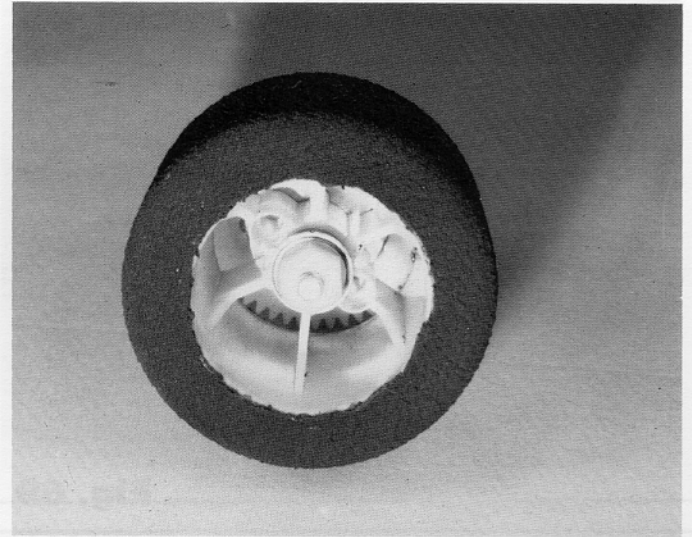
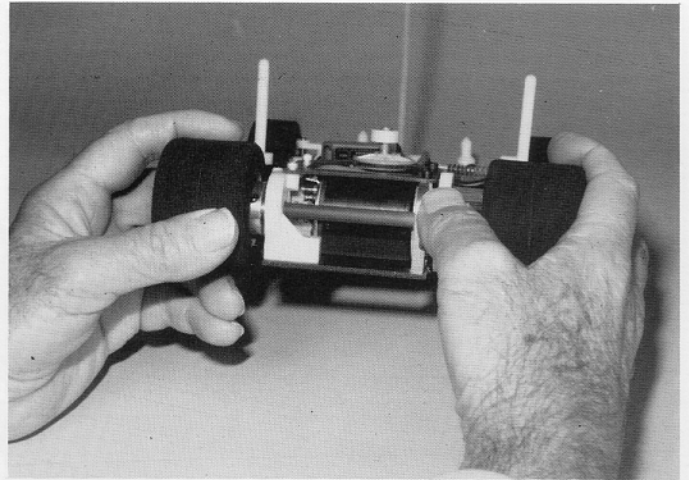

Fig. 67
Fig. 74
□ **Fig. 74**—Now we'll adjust the diff. Hold the left hand wheel in your left hand and the right hand wheel in your right hand, as shown. Hold the wheels from turning. Take your right hand thumb, as shown, and push on the spur gear to see if you can turn it. If it will not turn, loosen the adjustment nut, shown in Fig. 67, until you can just barely push the gear forward. Now, tighten the nut just a very small amount. If you cannot push the gear forward now, then your diff is correctly adjusted.